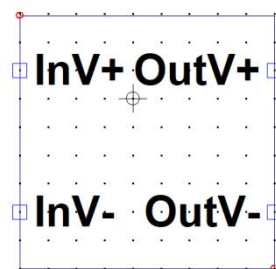

Fig. 7. Editing the transformer symbol.
7. In the symbol editor, draw a rectangle (menu *Draw*) and insert the output pins *InV+* and *InV-* and output pins *OutV+* and *OutV-* (menu *Edit > Add Pin/Port* or the p key) (Fig. 7).